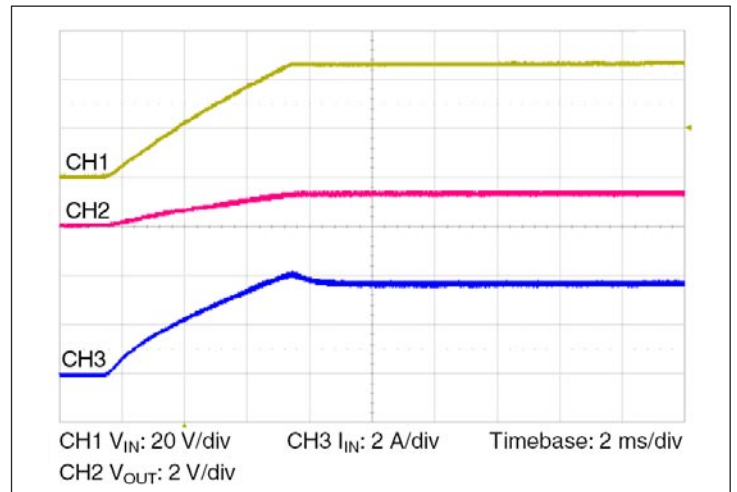

Figure 10 – Start up from application of V_{IN}; VC pre-applied C_{OUT} = 64400 μF
- Normal operation (VC applied prior to V_{IN}): In this case the controller is active prior to ramping the input. When the input voltage is applied, the VTM module output voltage will track the input (See Figure 10). The inrush current is determined by the input voltage rate of rise and output capacitance. If the VC voltage is removed prior to the input reaching 26 V, the VTM may shut down.